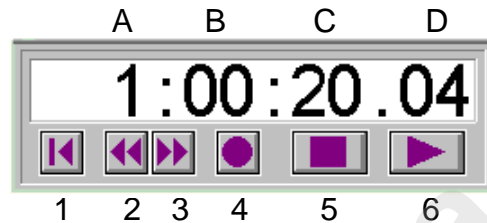

Figure 8.5. Standard Clock
- **Internal**- uses an internal clock source. In the display (A:B:C.D) *A* is the hour, *B* is the minutes, *C* is the seconds, and *D* is frames. Refer to Figure 8.5.
- **MTC (SMPTE)**- uses external MIDI time code or SMPTE time code. In the display (A:B:C.D) *A* is the hour, *B* is the minutes, *C* is the seconds, and *D* is frames. Additionally, play turns on and off the SMPTE input. Refer to Figure 8.5.
- **Time of day**- uses the computer's clock to reference cues. This feature automates shows to play cues at a specific time of day. In the display (A:B:C.D) *A* is the hour (military time), *B* is the minutes, *C* is the seconds, and *D* is frames. Refer to Figure 8.5.
- **Day of Week**- uses the computer's clock to automate shows to play cues at a specific time of day and day of week. In the display (A:B:C.D) *A* is the day, *B* is the hour, *C* is the minute, and *D* is ignored. For the days, Sunday is **0** and Saturday is **6**. Refer to Figure 8.5.